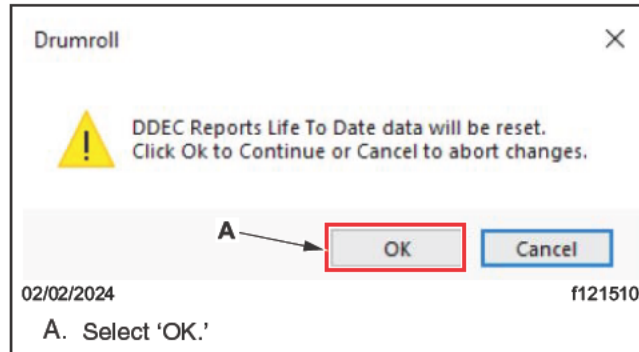

Fig. 40, DDEC Reports Pop-Up
19.9 DDEC reports are not applicable for battery electric vehicles. In the pop-up window that appears, select 'OK.' See Fig. 40.